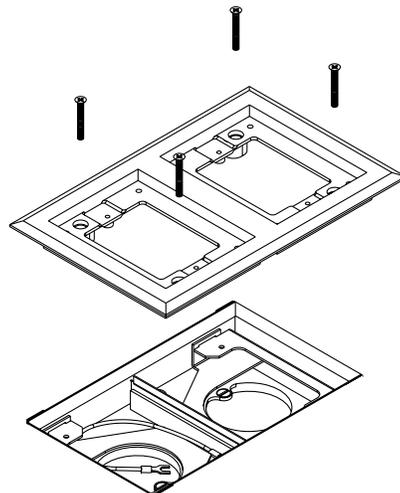

Figure 4
4. Place trim flange over adaptor and align the four mounting holes in the flange to the four tapped holes in the adaptor (see Figure 4).